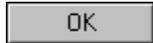

Fig.14. Selecting a language
- Select Russian/English language to use during the installation (Fig. 14) and click